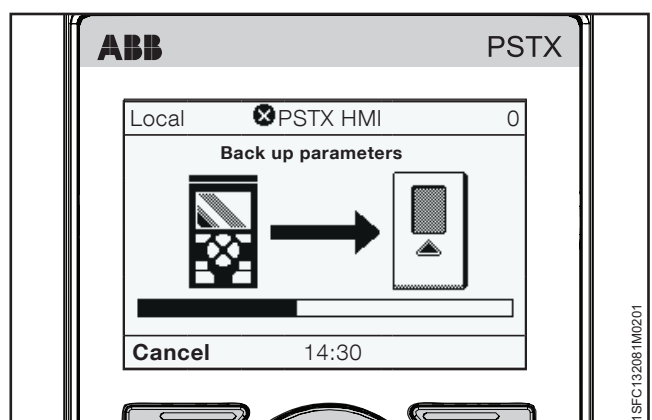

Figure 6.33
4. Push  "Select" for the upload of the parameters. This shows as in **Figure 6.33**.